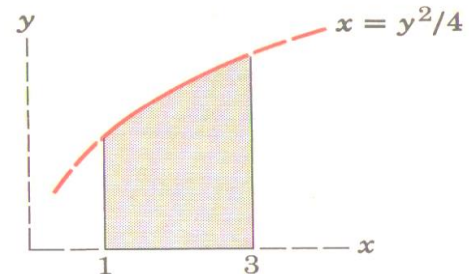

figure 2
2. Locate the centroid of the shaded area shown in Fig. 2.